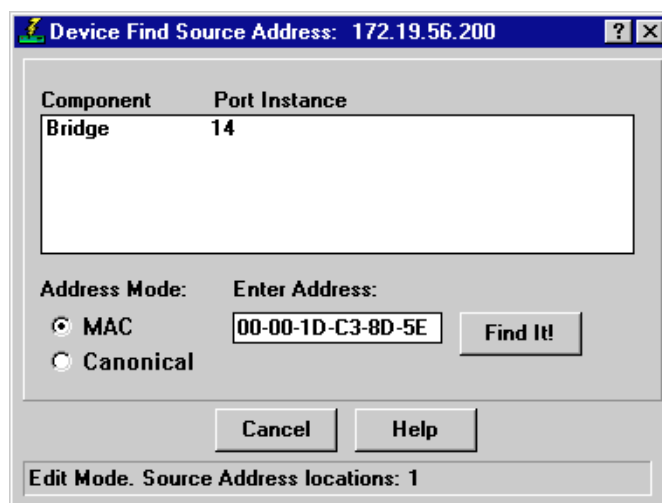

Figure 2-11. Device Find Source Address Window
2. Click on **Device Find Source Address**. The Device Find Source Address window, as shown in Figure 2-11, will appear.
2. Click to select **Device Find Source Address**. The Device Find Source Address window, as shown in Figure 2-11, will appear.